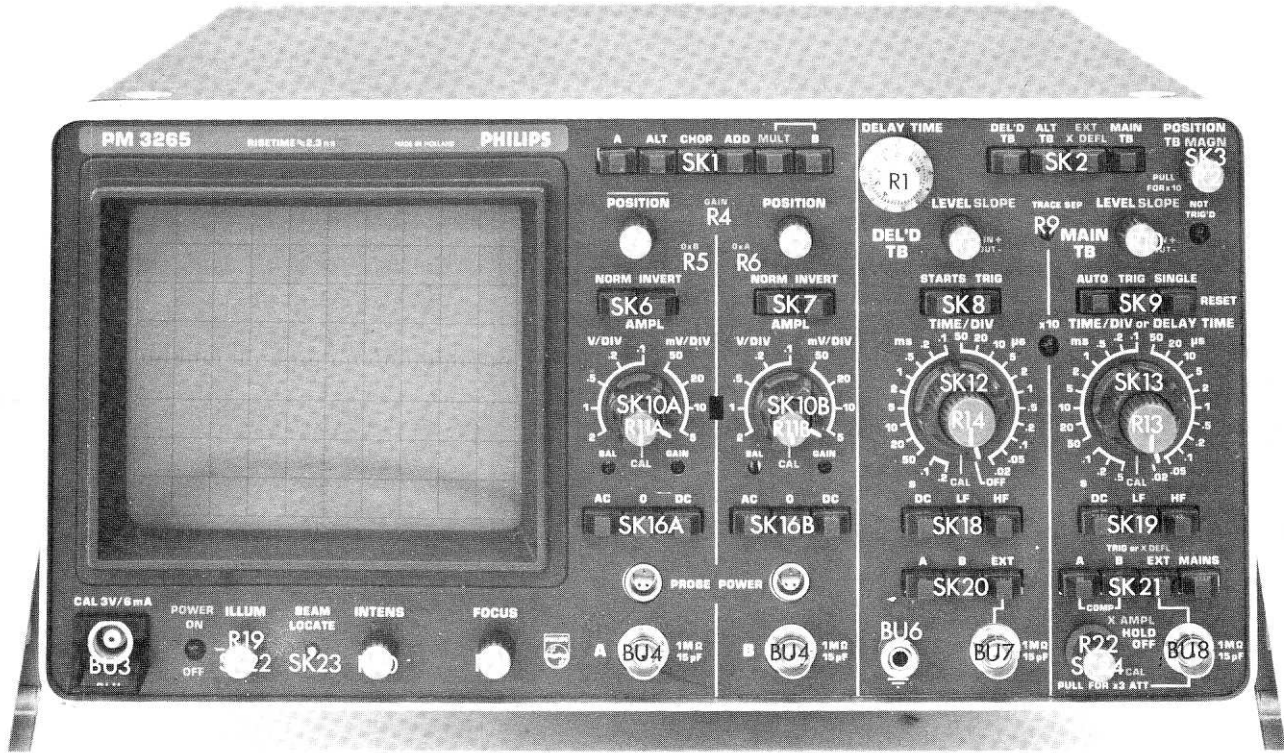

Fig. 2.3. Front view of the instrument
2.2.1. Controls and sockets (Fig. 2.3.)